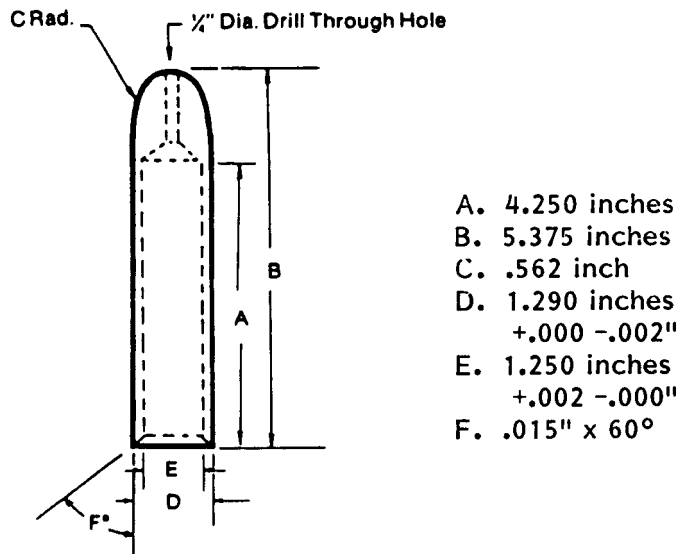

Figure 7-3. Special Steel Sleeve
- c. Special Steel Sleeve. The special steel sleeve is used to insert the driveshaft through the lip seal without damage and can be made from bar stock. Use a 1 1/4 inch diameter by 5-3/4 inch bar. Refer to figure 7-3 for details to fabricate this tool.
and bar (see figure 7-3). Do not attempt to bottom-out seal, press in only until it is flush with the face of the recess. Wipe off surplus sealant.
- h. Grip the shaft end cover (13) in a vise with the mounting face down. Cut 2 pocket seals (14) 7/32" long from the pocket seal strip. Grease these pocket seals well and insert them into the middle slots on the reverse side of the thrust plate (11).
- i. With the pocket seals (14) facing down, place the thrust plate (11) over the bearings (16) in the shaft end cover (13). Tap thrust plate with a soft hammer to about 1/32" from the machined surface.
- j. Cut 4 pocket seals (14) approximately 1/4" long from the pocket seal strip. Insert one pocket seal into each of the slots in the thrust plate (11). Push each pocket seal all the way in so that it touches the roller bearings. Tap the thrust plate down firmly against the machined surface with a soft hammer. Use a sharp razor blade to trim exposed end of the pocket seal square and flush with the thrust plate.
- k. Insert the splined end of the drive shaft (12) into the special steel sleeve (see figure 7-3). Lightly grease the drive shaft and sleeve. Insert the integral gear and drive shaft (12) with sleeve into the shaft end cover (13) with a twisting motion. Be careful not to damage the double lip seal (20). Push down carefully until the gear rests against the thrust plate. Remove the steel sleeve. Insert the driven gear.
- l. Grease the new gasket seals (15) and insert them into the grooves in both sides of all gear housings (6 and 10).
- m. Slide the first section gear housing (10) over the gears and tap it with a soft hammer until it rests lightly against the shaft end cover (13). Be careful not to pinch the gasket seal (15). Squirt oil over the gears to provide initial lubrication when pump is started.
- n. With the thrust plates (5 and 11) mounted on the bearing carrier (9) (as in steps h, i, and j), position it on the gear housing (10) so that the roller bearings receive the journals of the drive and driven gears (12). Make sure that the drain port in the bearing carrier is on the suction or inlet side. Make sure that the index marks are properly aligned.
- o. Insert the connecting shaft (8) in the spline of the drive gear (7).
- p. Insert the drive and driven gears (7) of the second section in their respective bearings. Make certain gears are in contact with thrust plate face.
- q. Slide the second section gear housing (6) over the gears and tap it tight against the bearing carrier (9) with a soft hammer. Be careful not to pinch the gasket seal (15). Squirt oil over the gears to provide initial lubrication when pump is started.
- r. Place the port end cover (4) over the gear journals and tap lightly against the gear housing (6). Be careful not to pinch the gasket seal (15).
- s. Thread the studs (2), washers (3) and nuts (4) into the shaft end cover (13) and tighten alternately or cross-corner. Rotate the drive shaft with a 6" wrench to make certain there is not binding in the pump.
- t. Guide the outboard bearing (19) into its recess in the shaft end cover (13). This is not a press fit. Insert the snap ring (18) into its groove to retain the outboard bearing.
- u. After the fasteners are tight and you are sure there is no internal binding, torque the diagonally opposite nuts (1) to 200 ft. lbs. (2400 in. lbs.).